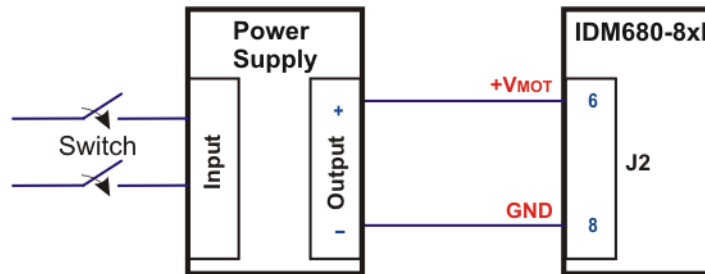

Figure 3.17. J2 – Motor supply connection – Recommended in-rush current limitation
- If motor supply V_{MOT} is switched on abruptly, the in-rush (start-up) current can reach very high values that can damage the drive. In order to limit the in-rush current, it is preferable to use the inherent soft-start provided by the power supplies when are turned on. Therefore, it is recommended to locate the switch for the motor supply at the INPUT of the power supply (see Figure 3.17) and NOT at the output i.e. between the supply and drive.